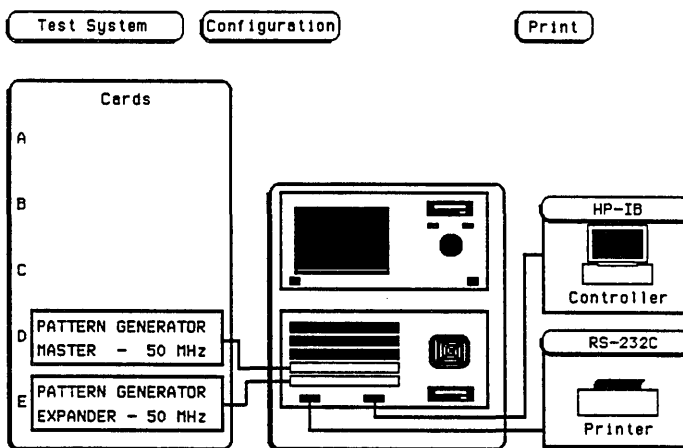

Figure 6-6. Test System Screen
d. From test screen in figure 6-6, touch Test System, then touch Pattern Gen. (If multiple pattern generator modules, select the one to be tested)